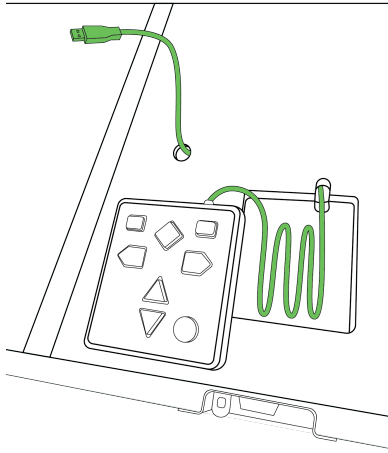

Figure 6-28. The keypad and its footprint
1. To install the keypad, first thread the end of the USB cord through the hole in the top edge of the keypad's footprint (Figure 6-28).